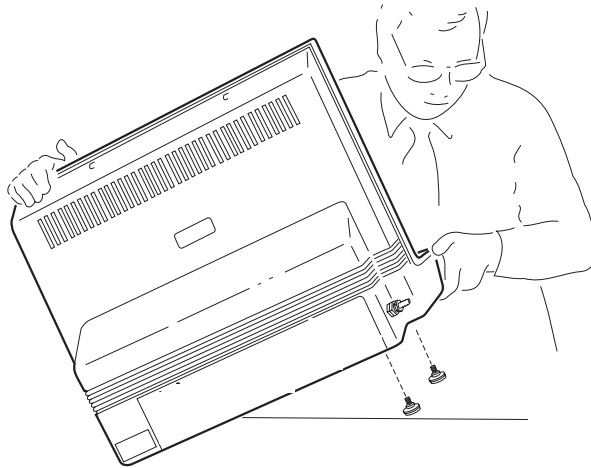

Figure 2.3 *Installing the Mounting Feet*
9. Have your assistant lift one side of the unit while you install the mounting feet (see Figure 2.3). Rotate the unit and install the remaining mounting feet in the same manner. A total of four mounting feet are needed.